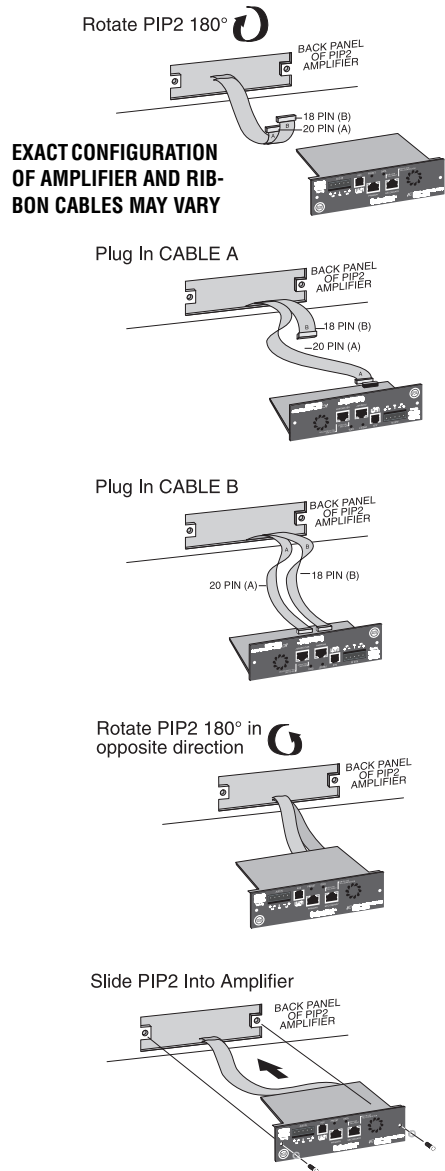

Figure 3.1 Installing the PIP into the Amplifier
1. Turn the PIP module upside down so the ribbon cable connectors located along the back edge of the underside of the module can be clearly seen (See Figure 3.1)
2. Attach the ribbon cables from the amplifier to the ribbon-cable connectors. The 20-pin cable (A) should connect to the connector closest to the corner and the 18 pin cable (B) should connect to the other connector.